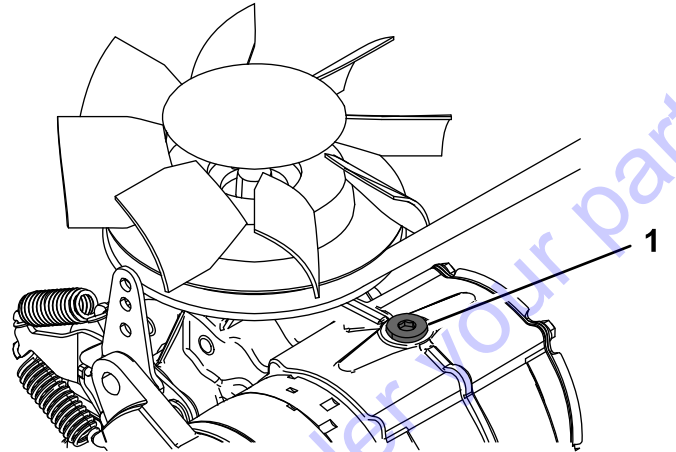

Figure 53
10. Loosen the vent plug in each transmission until loose (Figure 53).